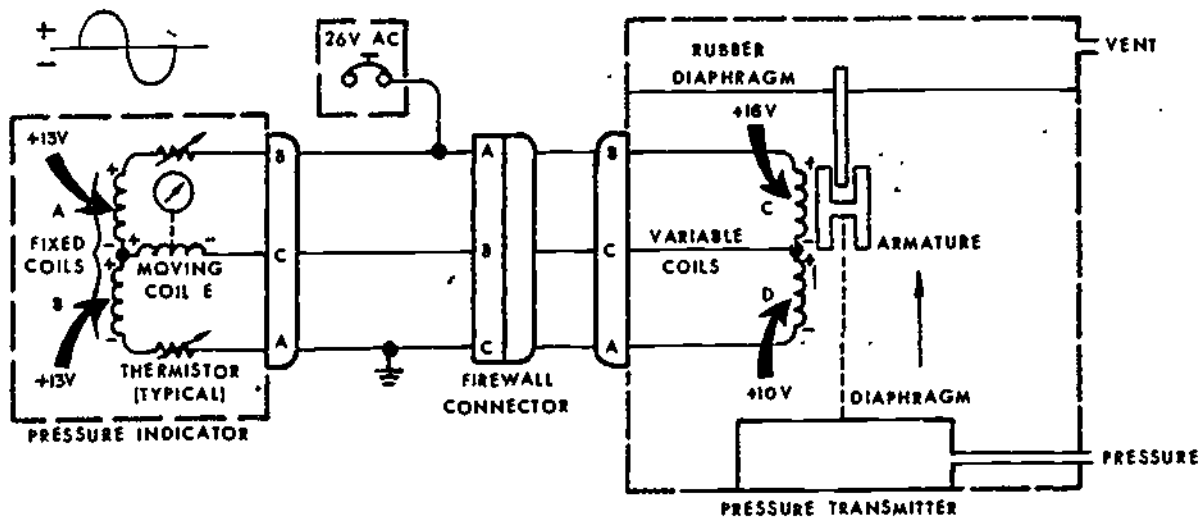

Figure 28.
See figure 28: Under these conditions, current will flow through the moving coil "E". The reason being that the top of coil "B" is at a +13 volt potential, while the top of coil "D" is at a +10 volt potential in reference to ground. Since a +10 volts is less positive than +13 volts, current flows from the +10 volt potential to the +13 volt potential through the moving coil "E" in the indicator causing the pointer to move UP-SCALE.
On the negative half-cycle of the applied AC all the polarities of the coils reverse. However, the voltage drops across the coils do not change unless the armature is repositioned as a result of a pressure change. See figure 28.
Refer to figure 28 to answer the following questions. Circle the letter for the correct response to the following statements.
1. In figure 28, current flows from the top of